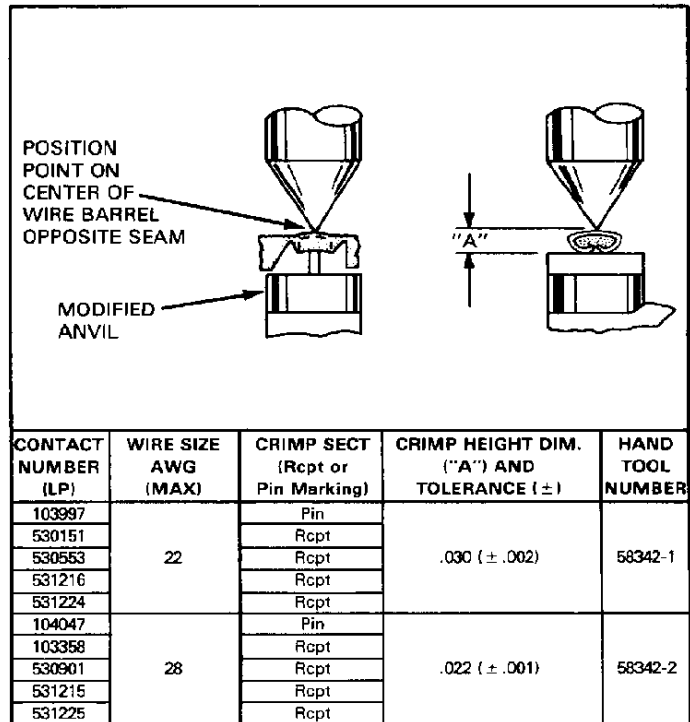

Fig. II-2
This inspection requires the use of a micrometer with a modified anvil as shown in Figure II-2. We recommend the modified micrometer (Crimp Height Comparator RS-1019-5L) which can be purchased from:
1. Refer to the chart in Figure II-2, and select a contact and a wire (maximum size) for each crimp section listed in the chart.
3. Using a crimp height comparator, measure wire barrel crimp height as shown in Figure II-2. If the crimp height conforms to that shown in the chart, the tool is considered dimensionally correct. If not, return the tool to AMP for evaluation and repair (see Paragraph II-2, REPAIR).
1. Select a contact, wire (maximum size), and the designated crimp section for the contact you are using (see Figure II-2).